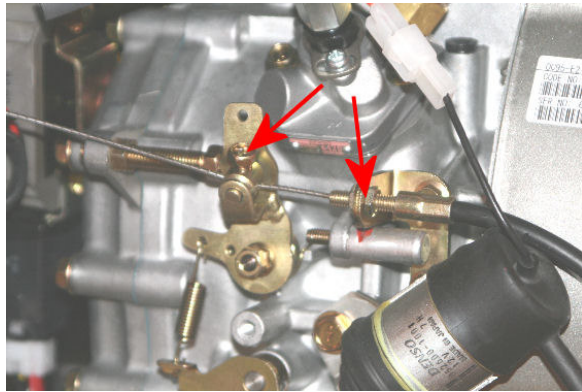

Fig 5-2 Throttle cable
5. Release and remove the throttle cable from the engine (Fig 5-2).